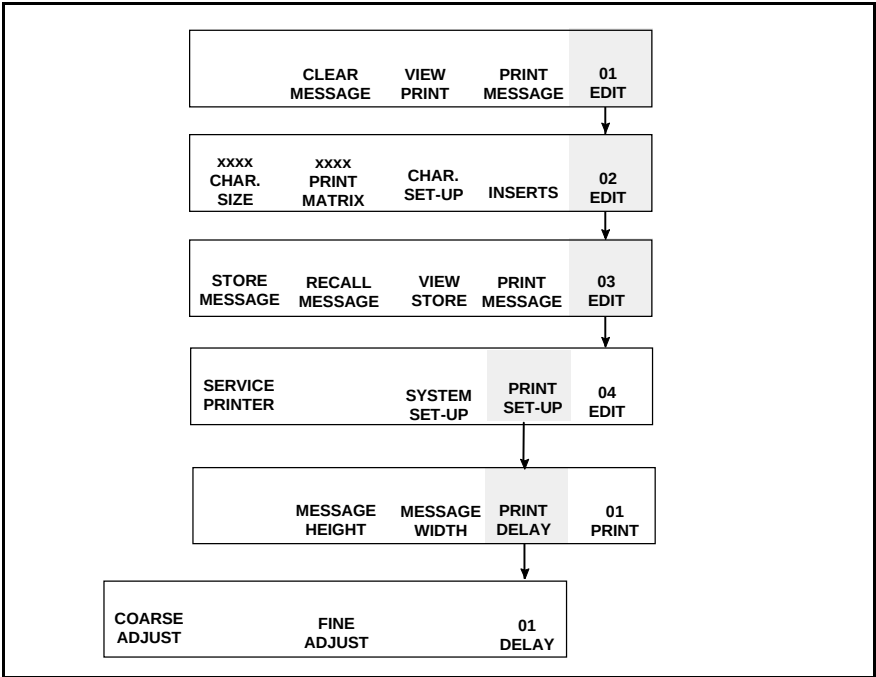

Figure 7-19. Access Frame <01 PRINT>
1. Begin in Frame <01 PRINT>. Refer to Figure 7-19.